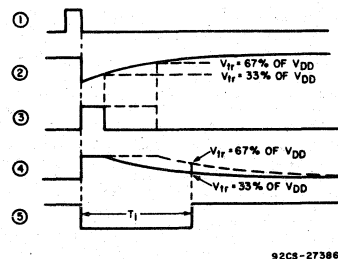

Fig. 14 - Waveforms showing the cancelling effects of transfer-voltage variations of the two COS/MOS inverters when two equal time constants are used.
The advantage of using two inverters fabricated on the same chip is that they have similar transfer voltages. When two equal RC time constants are used (R1C1 = R2C2), the effects of variations in transfer voltage from device to device are effectively cancelled out, as shown in Fig. 14. Eq. (1) can be used to show that the maximum variation in the time period T is less than 9 percent. The total time for one period,